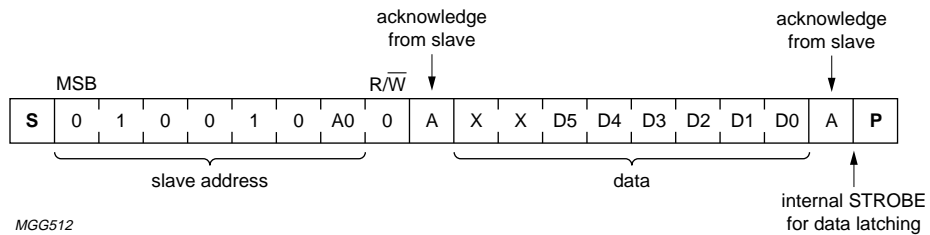

Fig.6 I2C-bus data format.
Address input A0 defines the least significant bit of the I2C-bus address of the device (see Fig.6). The first 6 bits of the address are fixed internally. By tying the A0 of each device to VDD (HIGH) and VSS (LOW) respectively, two different PCD3311C or PCD3312C devices can be individually addressed on the bus.
**7.8 I2C-bus data configuration** (see Fig.6)